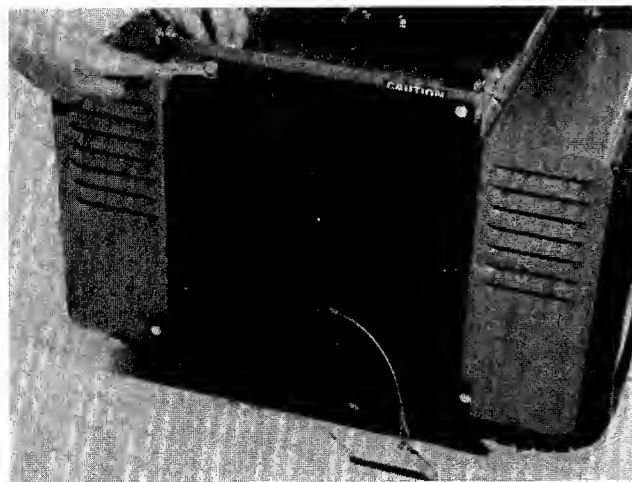

FIGURE 25.
4. Place the rear hitch plate against the discharge opening of the rider. Attach with four 5/16" screws (H), lock washers (I) and nuts (J). See figure 25.